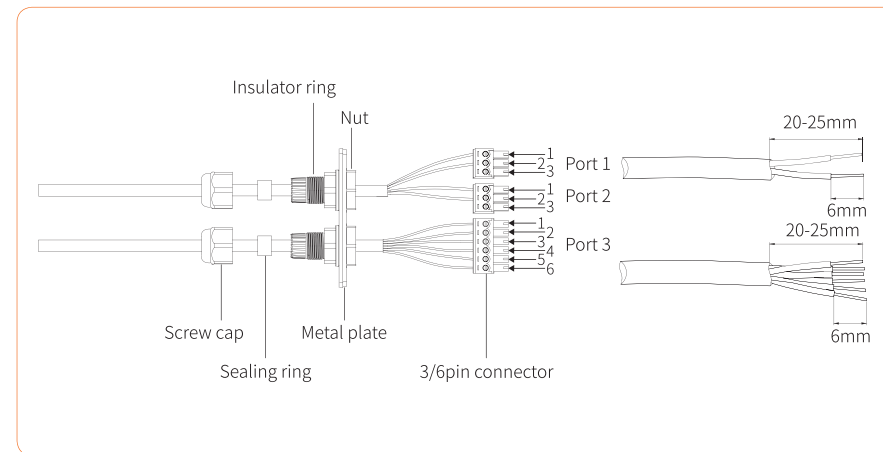

Figure 4-23
- ① Remove the CT/DRED plate in the bottom of the inverter with a cross screwdriver.
- ② Put the cable through the connector and connect to the terminal in the following order: screw cap, sealing ring, insulator, metal plate, nut and 3/6pin connector, as shown in Figure 4-23: